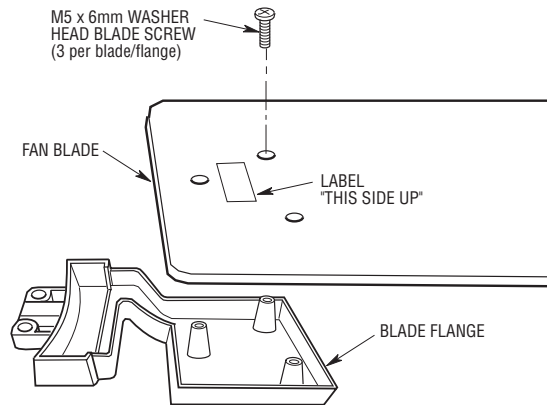

Figure 1
1. Position a blade flange under a fan blade until it seats in the holes in the blade (Figure 1). Install three M5 x 6mm washer head screws (supplied); tighten the screws. Repeat this procedure for the remaining four blades.